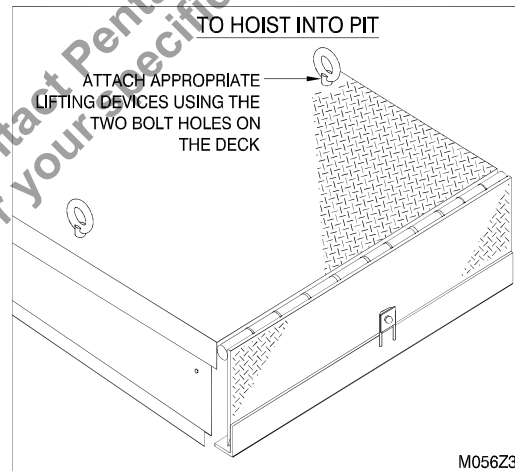

Figure 5: Attach Lifting Devices
6. Install an appropriate lifting device into the two supplied holes and nuts (5/8"-11 UNC) in the dock leveler (See "Figure 5: Attach Lifting Devices" on page 9).